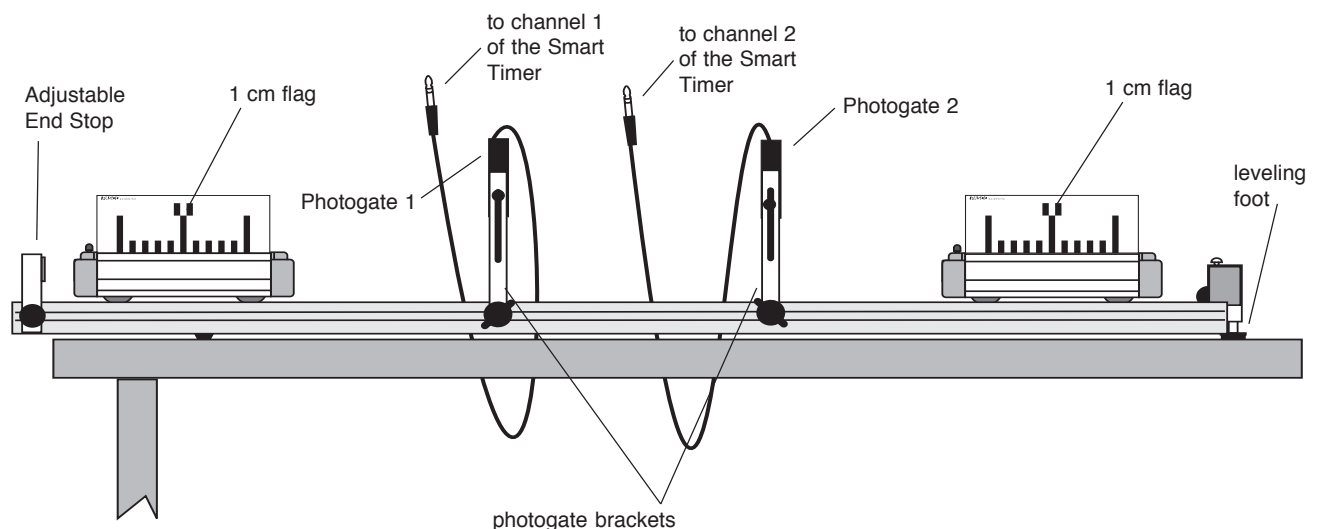

Figure 3.1
2. Put a Picket Fence into the slots in the top of each cart and place the Collision Carts so the Velcro patches face each other. Position the two photogates just far enough apart so the collision can take place between the photogates. Adjust the height of the photogate so the 1 cm fence will block the photogate beams. Connect the photogates to the Smart Timer (see Figure 3.1).